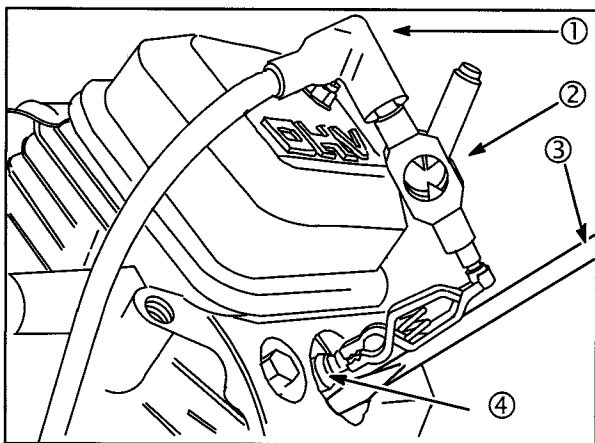

Fig. 3
To test for a fouled spark plug or a non-functioning cylinder, attach Ignition Tester #19368 (2) between the spark plug lead (1) and each spark plug (4). With engine running at top no-load speed, use a screwdriver (3) with an insulated handle to ground one spark plug by contacting the alligator clip on the ignition tester to a good ground on the engine, Fig. 3. The engine should continue to run on the other cylinder. Repeat this test with the other cylinder. If the engine dies when performing this test, the cylinder that is NOT grounded is not functioning and/or the spark plug is fouled. Install a new spark plug and re-check. If miss continues see the following procedures.